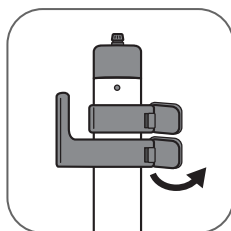

fig. 2
2. Hold the handle such that the cord holder is on the left. Check that the 2 handle clips are unlocked. (fig. 2)